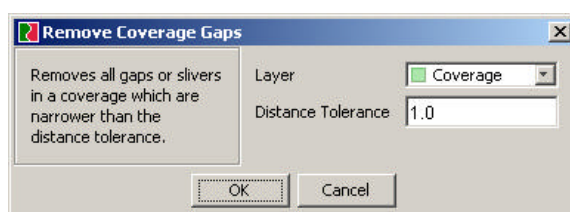

Figure 3-7 - Remove Coverage Gaps dialog
- Invoke the Remove Coverage Gaps function by choosing Clean / Remove Coverage Gaps... (see Figure 3-7 below).